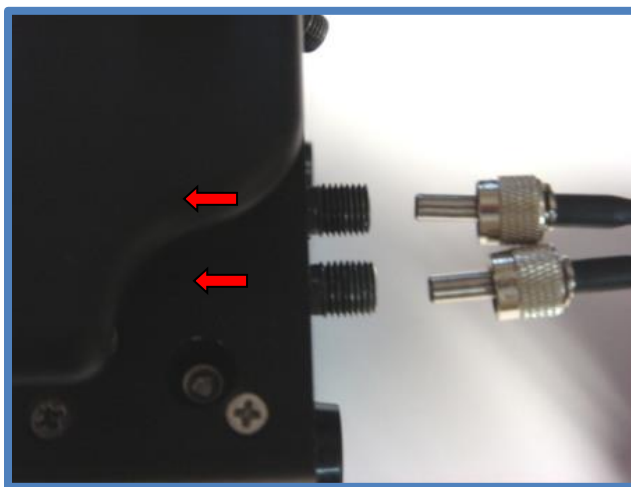

Figure 4. Connecting the bifurcated fiber optic cable to the leaf probe
- 2. Connect the bifurcated fiber optic cable to the leaf probe.** Hold the end of the cable with two connectors (SMA 905 connectors) and insert both connectors to the light source ports, as shown in Fig. 4. Tighten the screws of the fiber optic cable to the leaf probe.